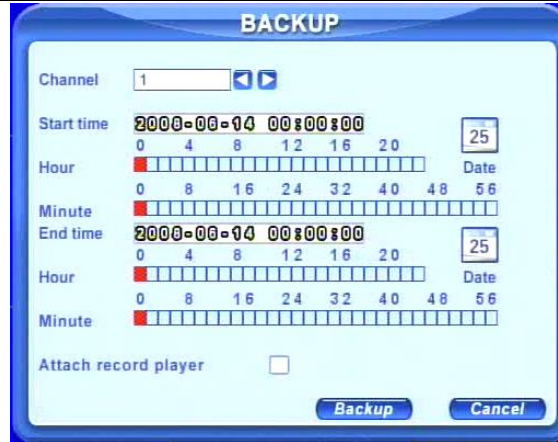

Fig 3.18 Backup Setup
STEP1 Enter Backup interface, see Fig 3.18 Backup Setup